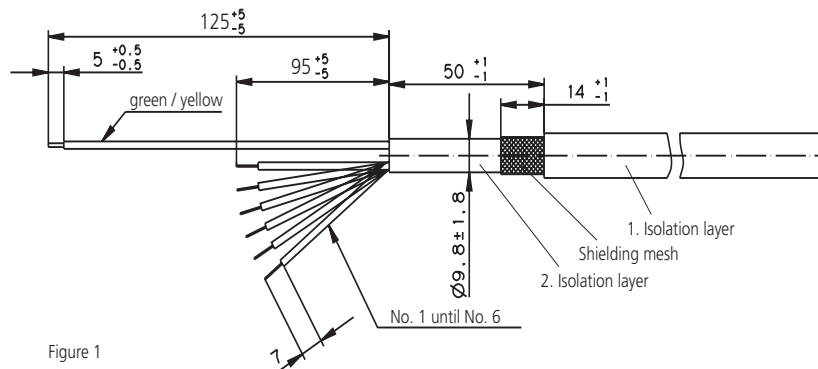

Figure 1
Prepare length of cable (see figure 1)
3.3.3.5 Cut stranded wires (see figure 1).
3.3.3.6 Cut insulation layer on stranded wire (see figure 1) and remove layer parts.
Strip (see fig. 1). Crimp cable eyelet on to grounding strand (see fig. 2). Crimp tubes on all stranded wires.